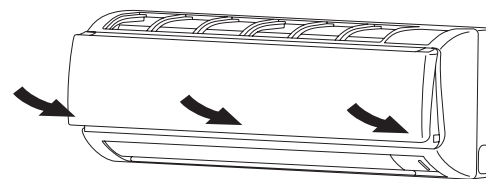

Fig. 2-204
- (b) Press the bottom right and left corners and center of the air intake grille to attach it to the indoor unit. (Fig. 2-204)